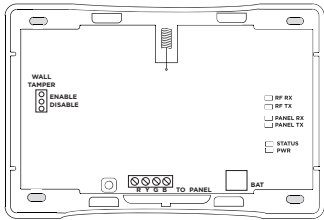

Figure 1: 1100R Wireless Repeater
2. Secure the 1100R to the wall using the supplied screws in the mounting hole locations. See Figure 1 for mounting hold locations.